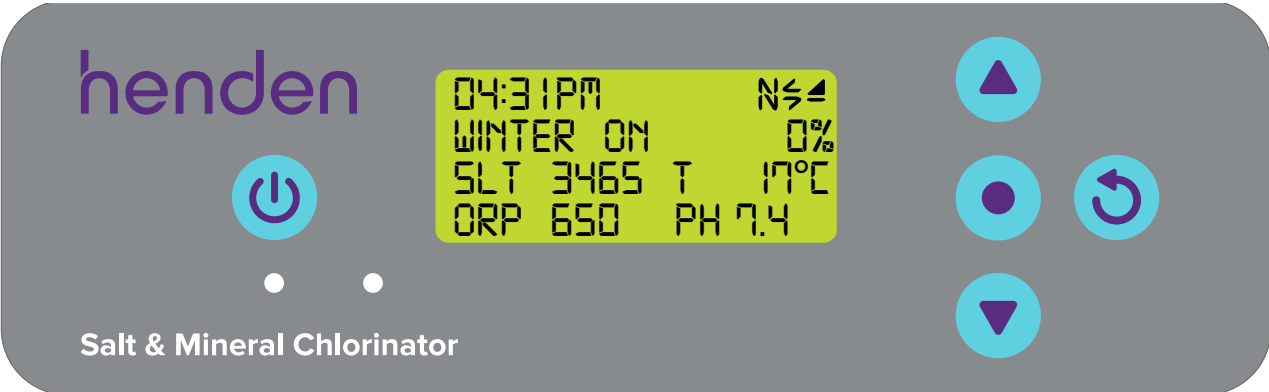

Figure 9.53
- Once back at the **HOME SCREEN** the display will toggle to show WINTER ON (refer Figure 9.53).